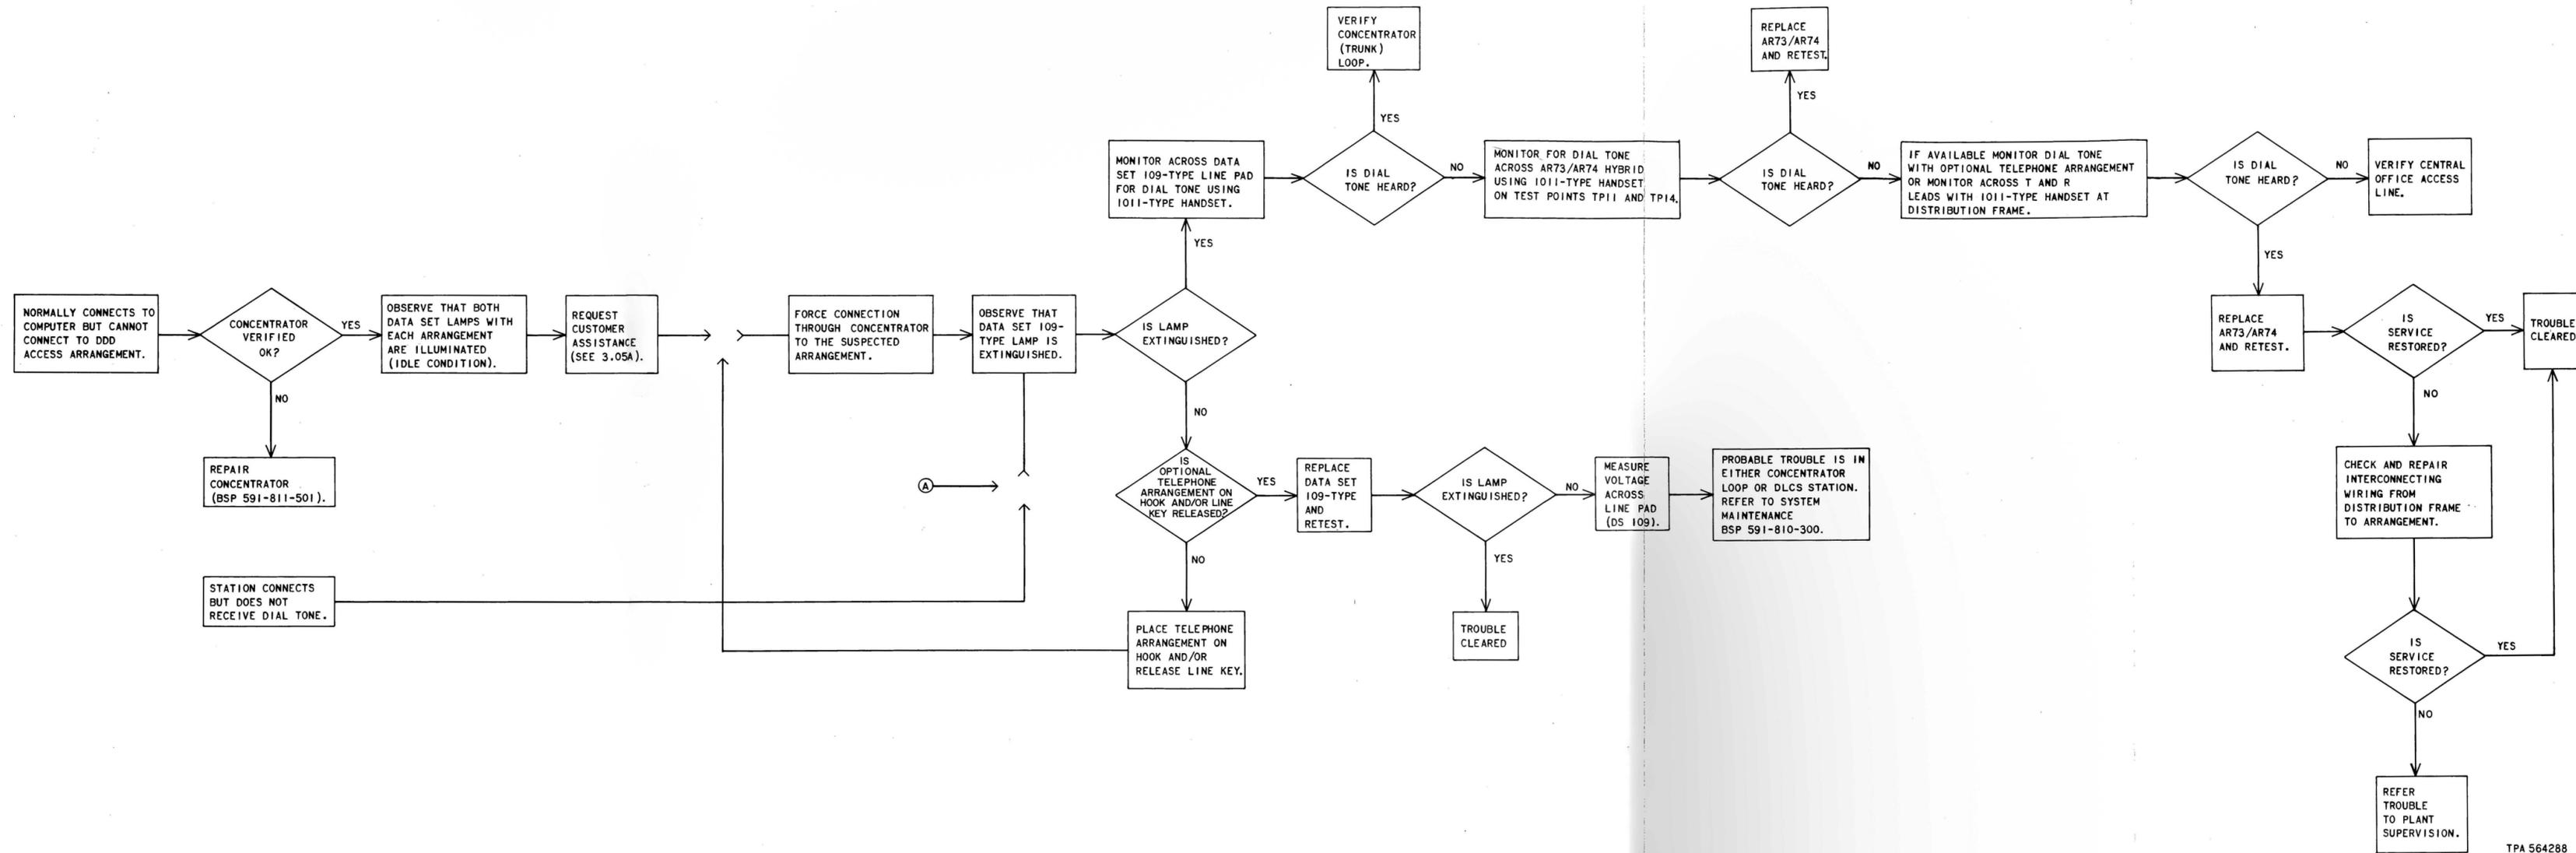

Fig. 1—Troubleshooting Flowchart
3.05 When an interconnection arrangement is suspected of causing a system malfunction, use the troubleshooting flowcharts in Fig. 1 through Fig. 3 and the following general procedures to find the trouble condition: